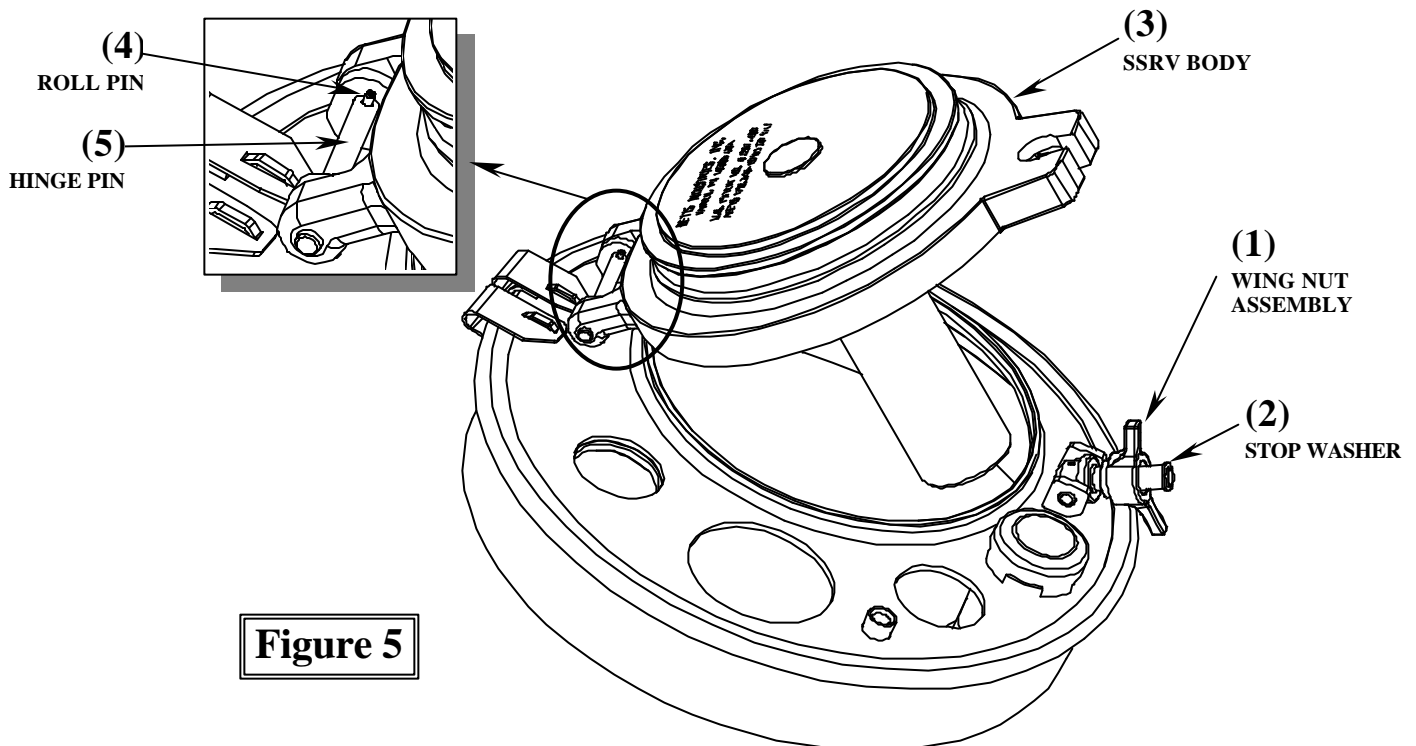

Figure 5
- 2.1. Removal of 10" **Fill Style** SSRV (Refer to figure 5)